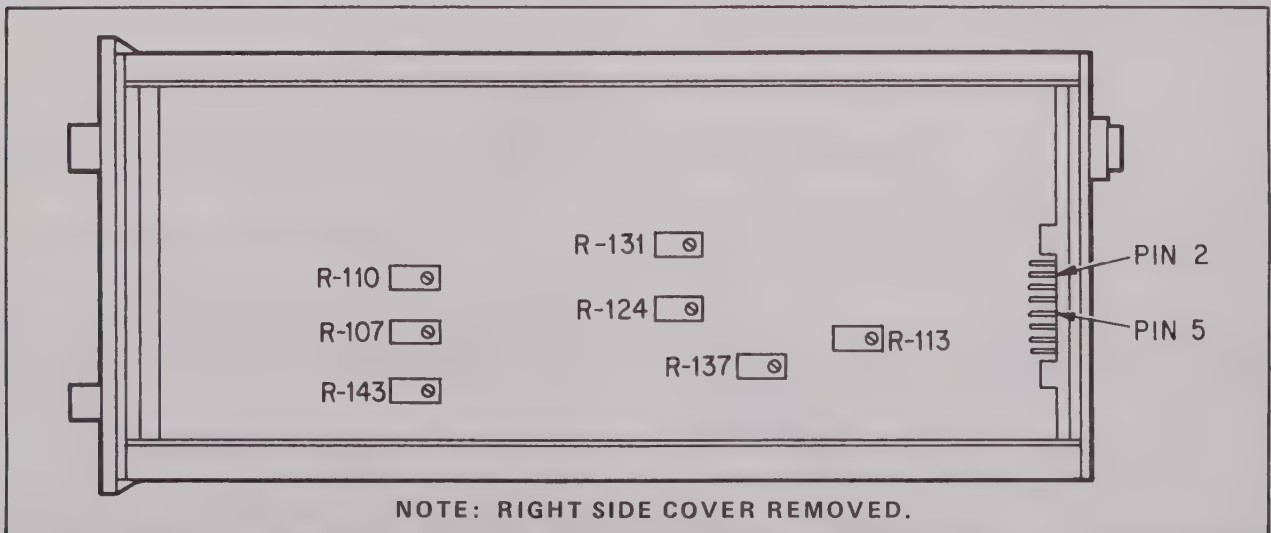

FIGURE 4-1 CALIBRATION COMPONENT LOCATION
- a. Remove right side cover from preamp (Figure 4-1).